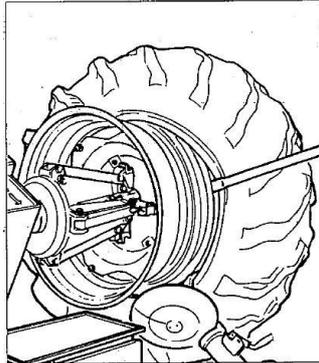

Fig.7.12
- 13) Insert lever LA between rim and bead, at the right of the tool (See Fig.7.12).